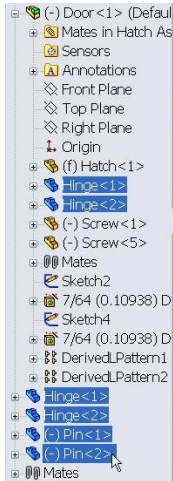

Figure 15
**With the FeatureManager displayed, and the control key depressed to allow for multiple selections, select all four instances of the hinge component, as well as both instances of the pin component, as shown in Figure 15.**